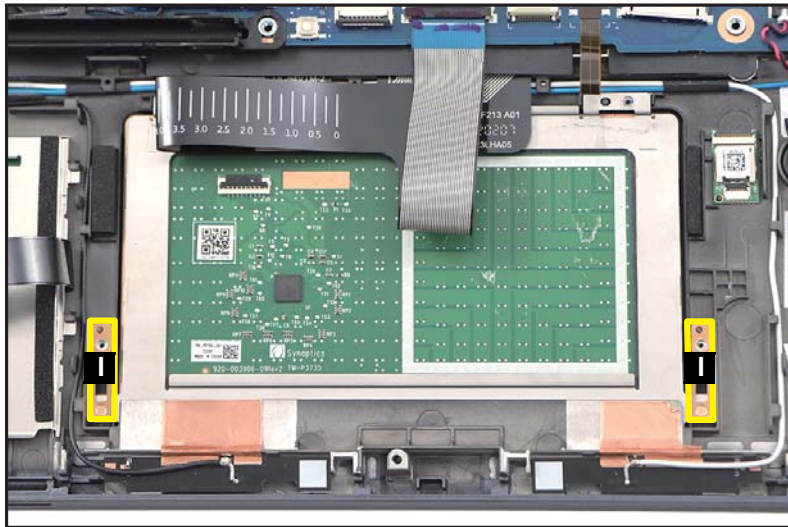

Figure 1-38. Touchpad Module Removal
9. Remove the arm brackets (I) from the top assembly (Figure 1-38).